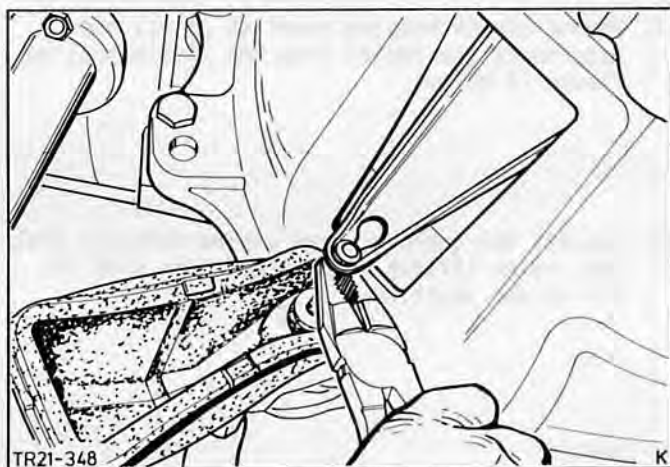

Fig.21. Attach clutch cable to release lever.
24. Attach clutch cable to clutch release lever, Fig.21, and adjust at pedal mounting in passenger compartment.